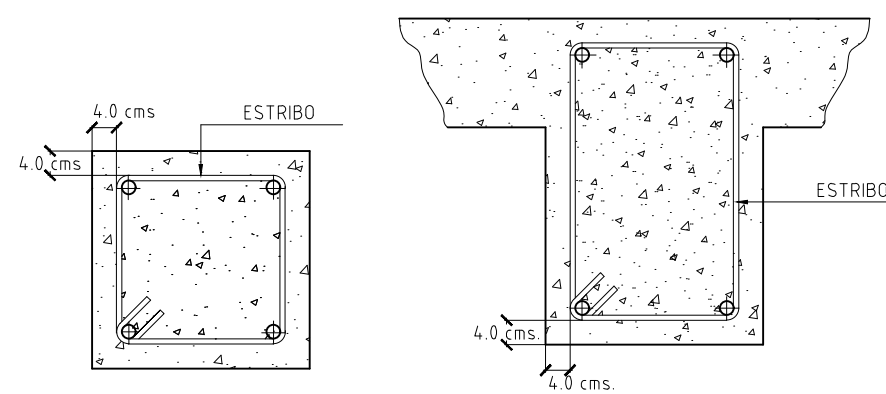

FIGURA 1
4.00cm AL REFUERZO PRINCIPAL EN VIGAS Y COLUMNAS (VER FIGURA 1)